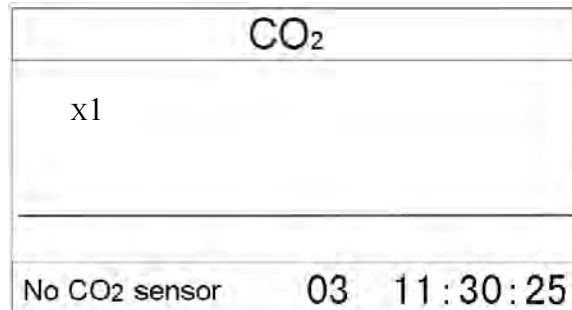
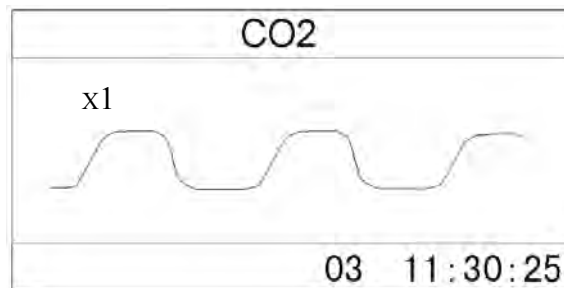

Figure 4.3 CO₂ Monitoring Screen (No CO₂ sensor)
Figure 4.4 CO₂ Monitoring Screen
Insert the CO₂ sensor cable into the connector labeled “CO₂”, follow section 3.3.1’s instruction to connect the CO₂ sensor and its accessories, and then connect to patient well, next turn on the CO₂ Switch Short time press “ Display” key to shift the screen view to CO₂ monitoring screen, as shown in Figure 4.3.
If the CO₂ sensor cable is disconnected from the monitor, the CO₂ waveform will become a base line in main display area (as shown in Figure 4.3). When CO₂ tube is attached on the patient and CO₂ sensor cable is connected to the monitor well, CO₂ waveform will be displayed in the main display area (as shown in Figure 4.4).
- ✧ CO₂ waveform will be displayed in the main display area. If the CO₂ sensor cable is disconnected from the monitor, the CO₂ waveform will become a base line in main display area (as shown in Figure 4.3).
in main display area and “No CO₂ sensor” will appear at the left side of prompt info area (as shown in Figure 4.3).